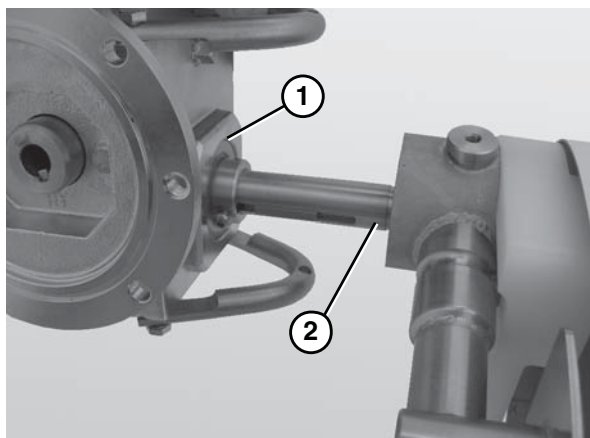

Figure 6
2. Slide the gear reducer (Figure 6, item 1) onto the drive spindle (Figure 6, item 2).